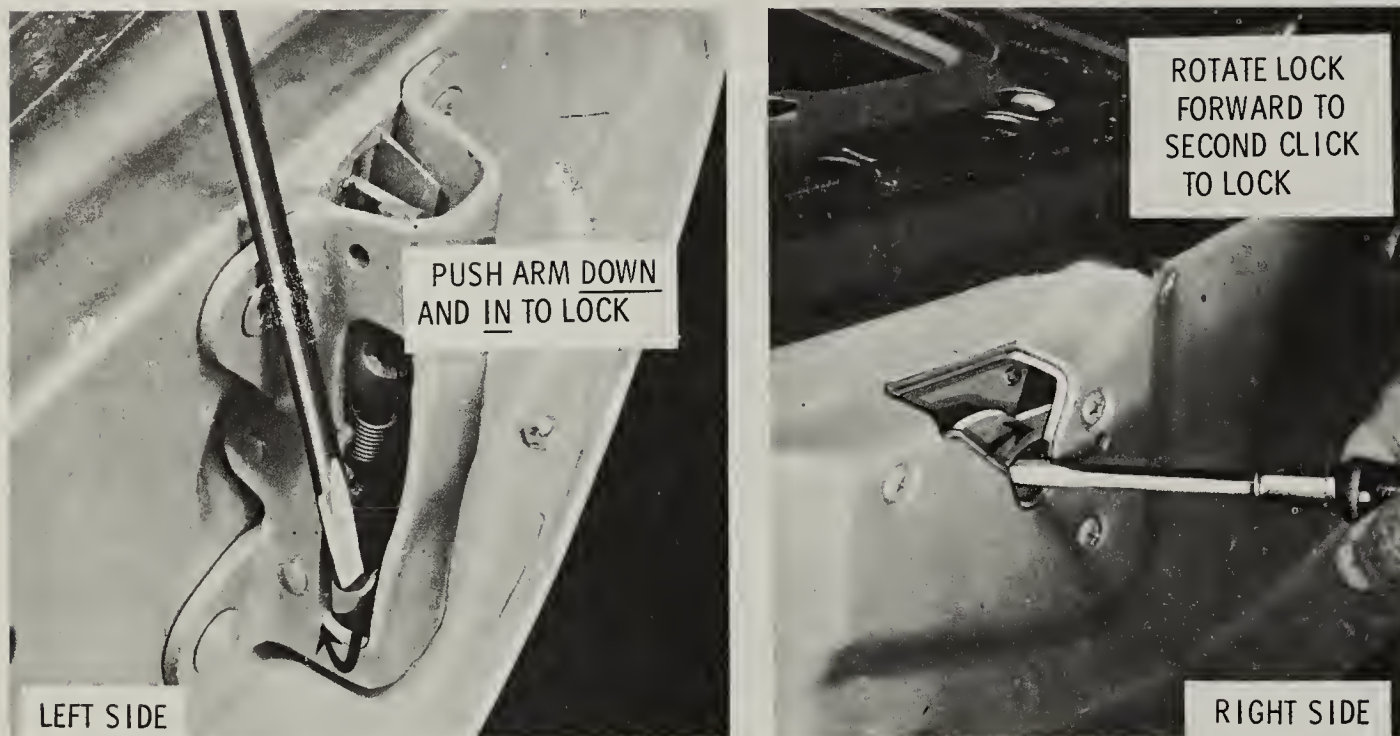

Fig. 21-14. Manual locking of upper right and upper left locks on a dual acting tail gate. (Fisher Body)
4. Manually lock both upper right and upper left locks as shown in Fig. 21-14.